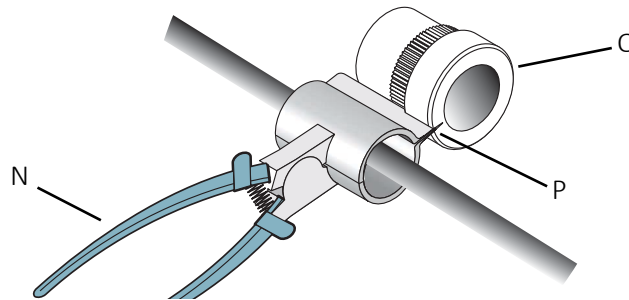

Figure 11: Sliding the cable into the Seal Insert (O)
27. Slide the Double Nipple (L) to the thread of the Back Plate (g) and rotate the Double Nipple (L) clockwise.
28. Tighten the Double Nipple (L) with an SW35 mm wrench at 6 Nm maximum torque.
29. Between the Pressure Screw (M) and the Double Nipple (L), grab the cable with the Spreading Pliers (N), see Figure 11.
30. Slide the Gap (P) of the Seal Insert (O) over the Spreading Pliers (N) and press the Gap (P) open.
31. Slide the cable into the Seal Insert (O) and close the Spreading Pliers (N).
32. Slide the Spreading Pliers (N) along the cable, out of the Seal Insert (O).